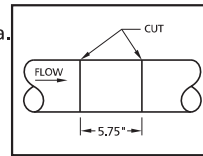
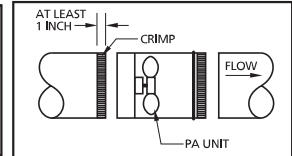

Figure 2
Figure 3
2. An alternative method is to cut a 5-3/4" section out of the duct pipe. (See Figure 2) Then crimp the end of the duct pipe with at least 1" crimp. (See Figure 3)
3. Install the PowerAir Fan unit with the crimped end pointing toward the problem area. (See Figure 3) Secure the unit with sheet metal screws and seal joints with duct tape. Support the unit with an acceptable hanging method.